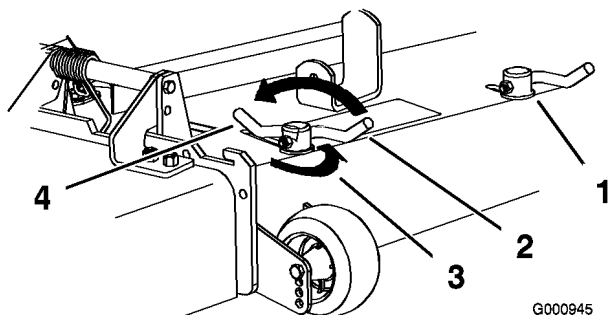

Figure 23
3. To adjust the cam locks, swing the lever up to loosen the cam lock (Figure 23).
5. Swing the lever back over to tighten the baffle and cam locks (Figure 23).